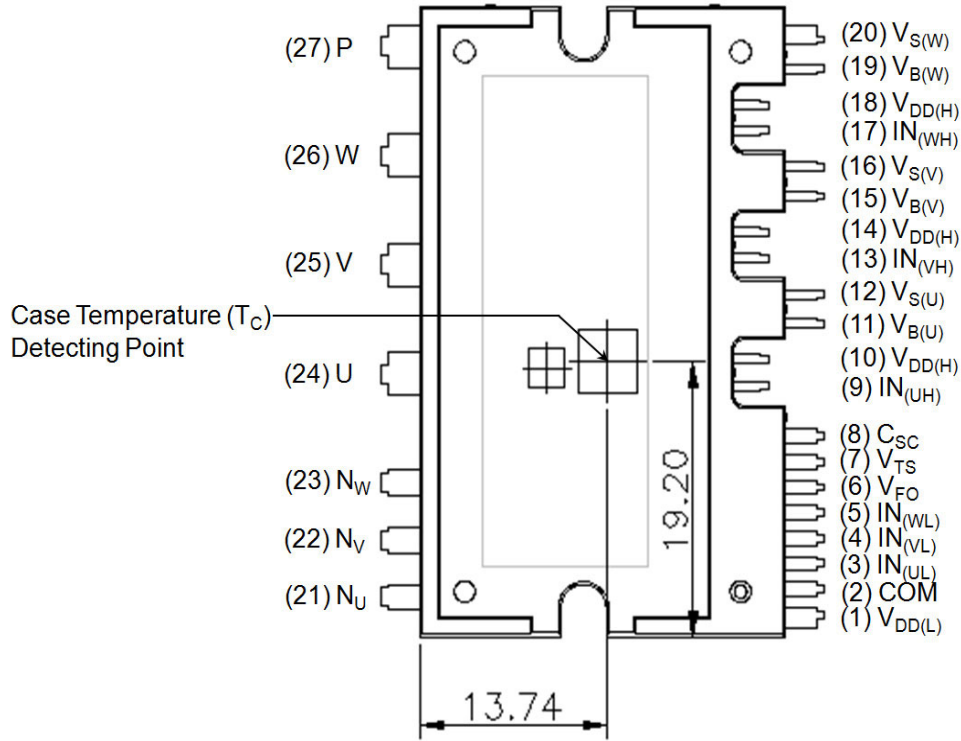

Figure 1. Top View
5. For the measurement point of case temperature (T_C), please refer to Figure 1. DBC discoloration and Picker Circle Printing allowed, please refer to application note AN-9190 (Impact of DBC Oxidation on SPM[®] Module Performance).